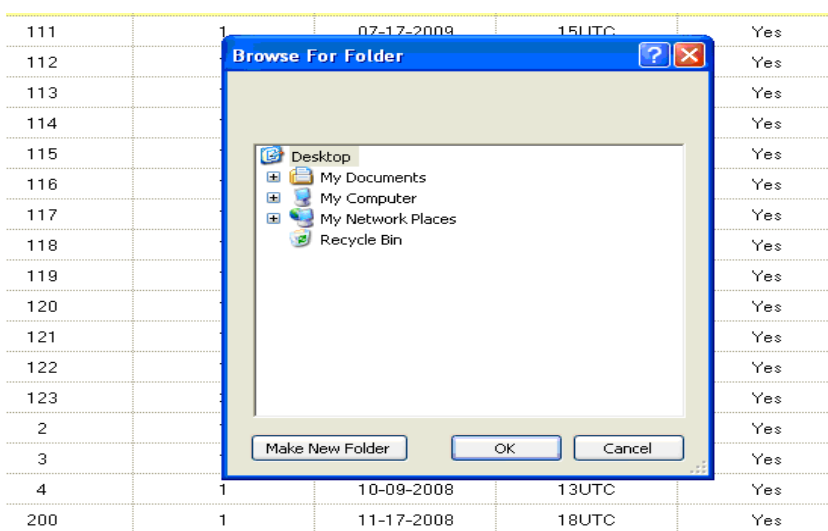

Figure A-6: Browse to the Location for Export
7. Click **Export** to display the *Browse for Folder* window (Figure A-6).